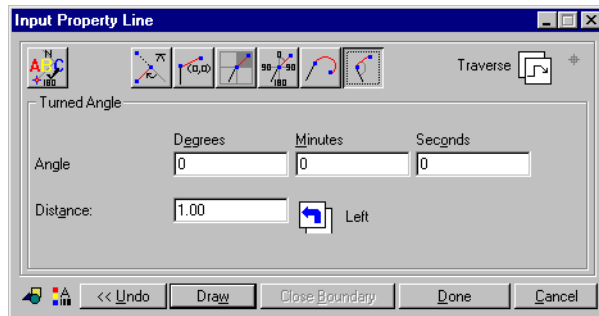

Figure 2-31 Input Property Line – Turned Angle Dialog Box
13. Click on the Turned Angle icon to display the Input Property Line – Turned Angle dialog box (Figure 2-31 on page 54).